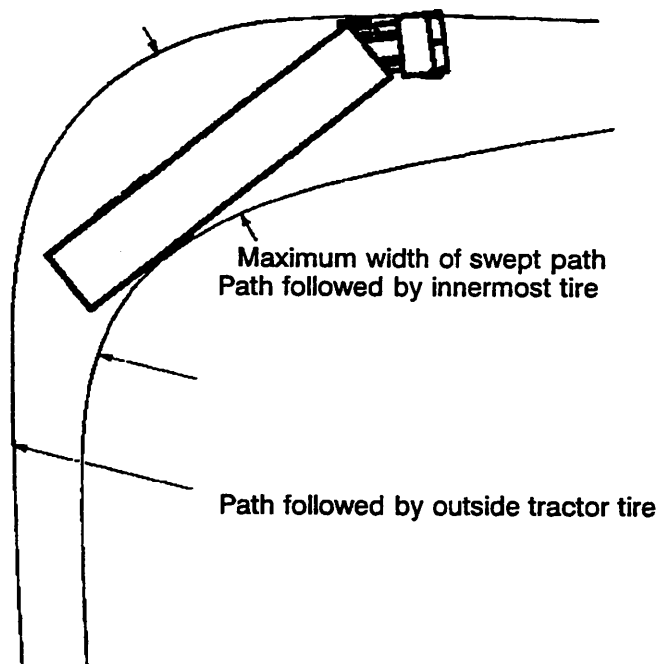
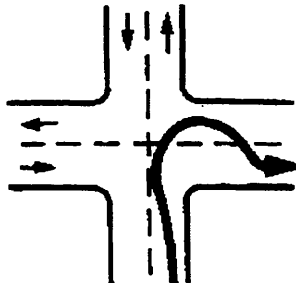

Figure 6-4
Figure 6-5
When a vehicle goes around a corner, the rear wheels follow a different path than the front wheels. This is called **offtracking** or "cheating." Figure 6-4 shows how offtracking causes the path followed by a tractor-semi to be wider than the rig itself. Longer vehicles will offtrack more. The rear wheels of the powered unit (truck or tractor) will offtrack some, and the rear wheels of the trailer will offtrack even more. If there is more than one trailer, the rear wheels of the last trailer will offtrack the most. Steer the front end wide enough around a corner so the rear end does not run over the curb, pedestrians, other vehicles, etc. However, keep the rear of your vehicle close to the curb. This will stop other drivers from passing you on the right. If you cannot complete your turn without entering another traffic lane, turn wide as you **complete the turn** (Figure 6.5). This is better than swinging wide to the left before starting the turn because it will keep other drivers from passing you on the right. If drivers pass on the right, you might collide with them when you turn.
5. Why should you turn like it shows in Figure 6-5?